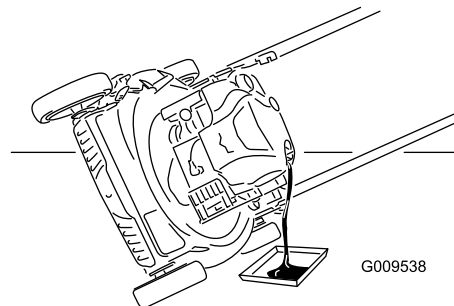

Figure 25
3. Tip the mower onto its side with the air filter up to drain the used oil out through the oil fill tube (Figure 25).